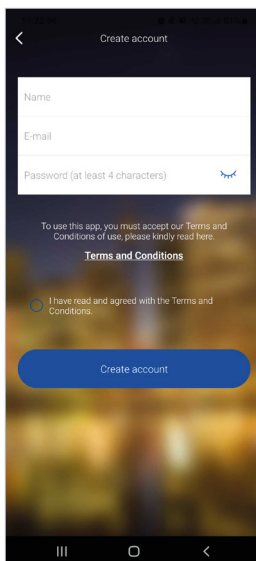
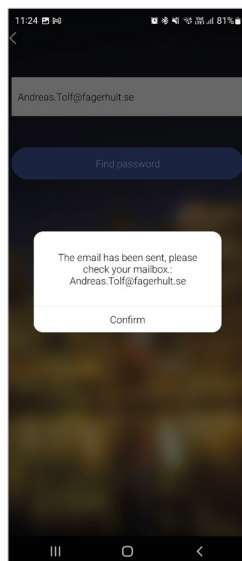

Figure 1.1 Create account
Figure 1.2 Retrive password
2. First time opening the app you need to create an account, fill in and accept the terms and conditions as requested (see figure 1.1). If you forget your password, click “Forgot password?” and Fagerhult e-Sense Flex app will send the password to your email, which needs to be valid (see figure 1.2).